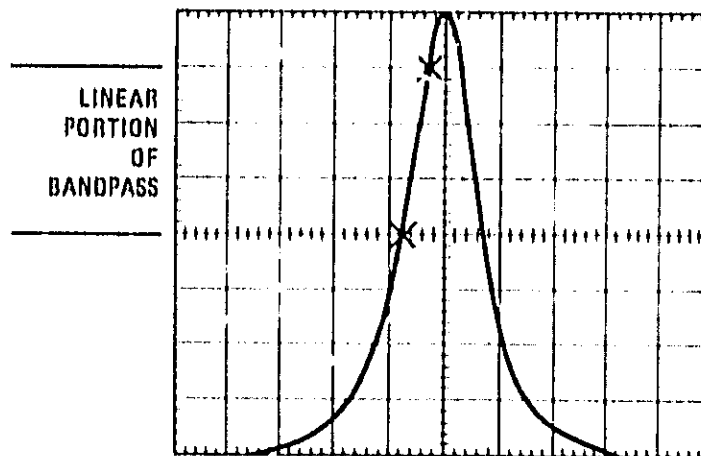

Figure 4-8. Spectrum Analyzer Display for Residual FM
6. Reduce RESOLUTION BW to 100 kHz and FREQUENCY SPAN/DIV to 100 kHz while keeping the signal centered with the FINE TUNING control. The spectrum analyzer display should be as shown in Figure 4-8.